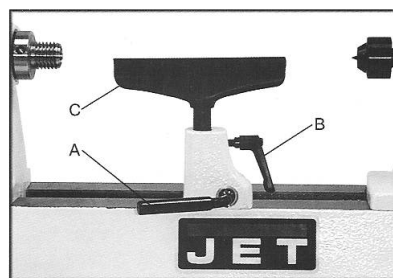

Fig 8
Position the tool rest (C, Fig 8) as close to the workpiece as possible. Tighten handle (A) to lock.
Set the height to appr. 3mm above centre. Tighten indexable knob (B, Fig 8).